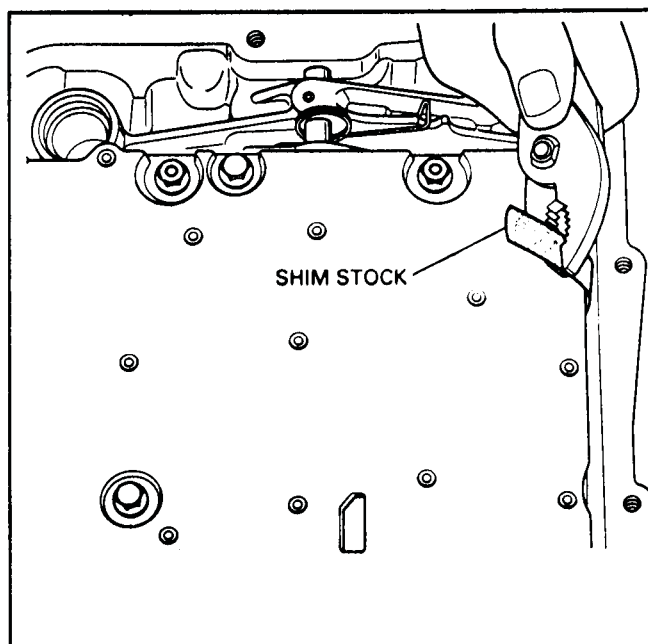

Figure 117
7. Remove the long feeler gage, as shown in Figure 117.